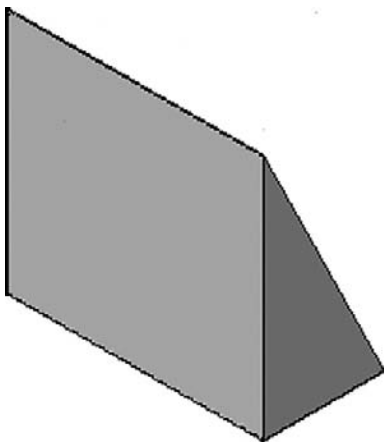

FIGURE 22.2
Step 4. Drag your mouse up (or enter a value) and the wedge shape is automatically extruded, as seen in Figure 22.2.